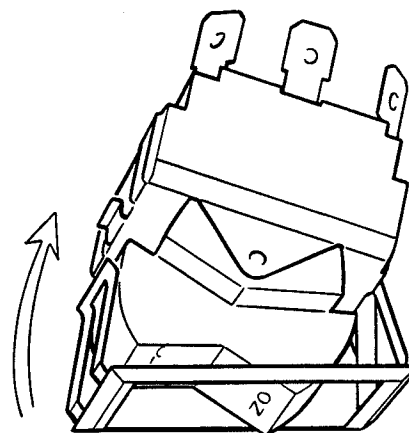

Figure 31. Clean-Off-On Switch Installation
- D. Place new switch in proper position and install retainer clip (Fig. 31).